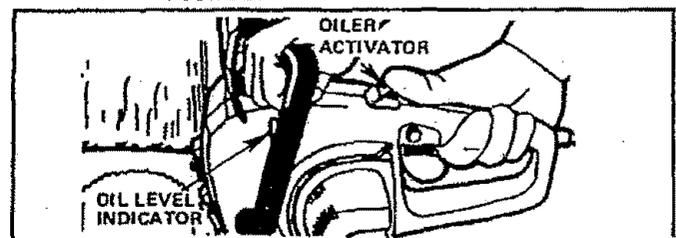

Figure 10
- a. Operate the oiler by pressing down on the oiler activator with your right thumb. Figure 10.
- a. Operate the manual oiler by pressing down on the oiler activator with your right thumb. Figure 10.